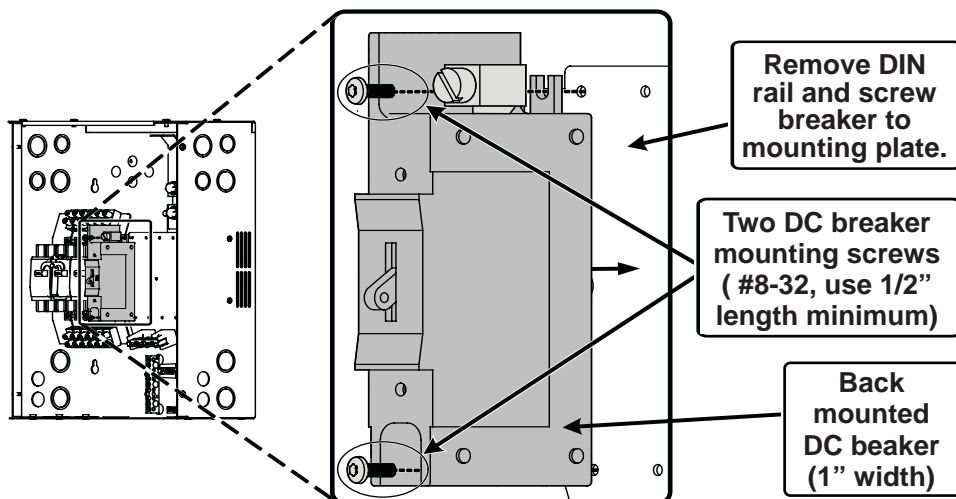

Figure 2, Installing Back Mounted DC Breakers
**Info:** The MMP enclosure is shown in Figure 2, however the installation is similar in MP installations.